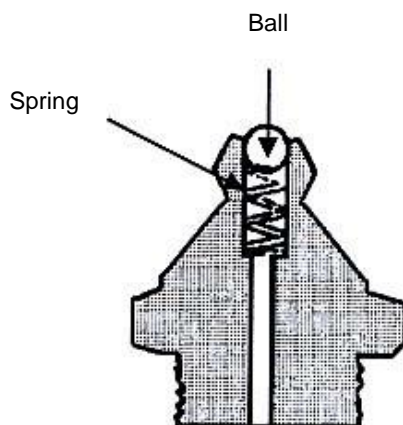

FIG 3.
- The grease nipple has a spring-loaded ball at its front as shown in Fig 3. This ball prevents any dirt entering the housing or the plumber block through the nipple. It is also impossible for the grease to escape through the nipple. It is possible, therefore, to fit the nipple in an upside down position.